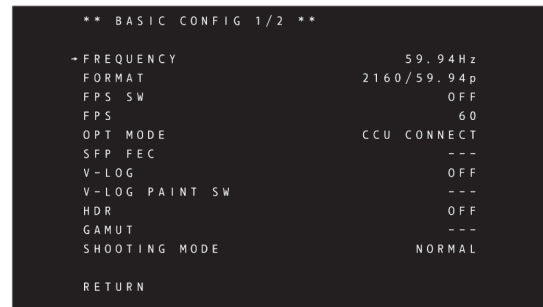

Fig. 2
- 7** Turn the <SELECT> dial button to move the cursor (arrow) to [FREQUENCY]. (Fig. 2)